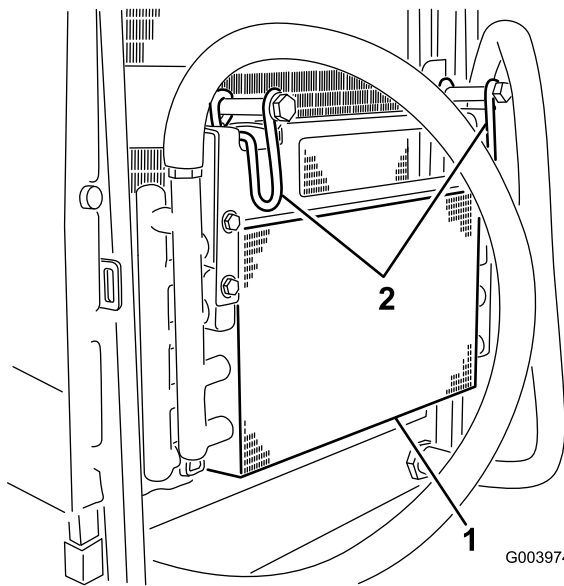

Figure 105
7. Rotate the 2 oil-cooler latches inward, and tilt oil cooler (Figure 105).